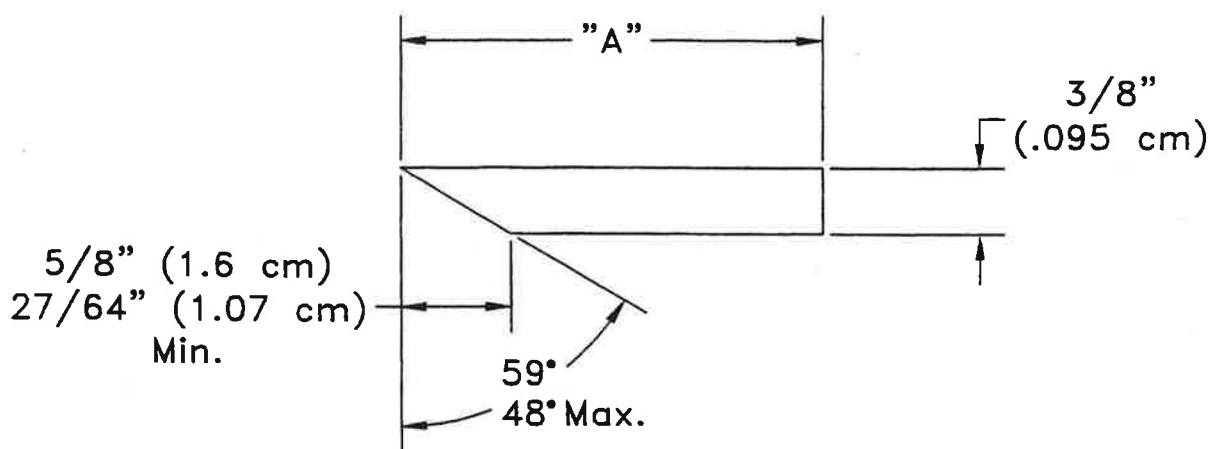

Figure 7
- f) Lay the knife on the knife shelf. Insure the knife is installed with the **cutting angle edge facing down** as shown in Figure 7. Install loosely the two outer, and the middle knife mounting bolts. Tighten the mounting bolts just enough to hold the knife in position while still allowing it to be moved.